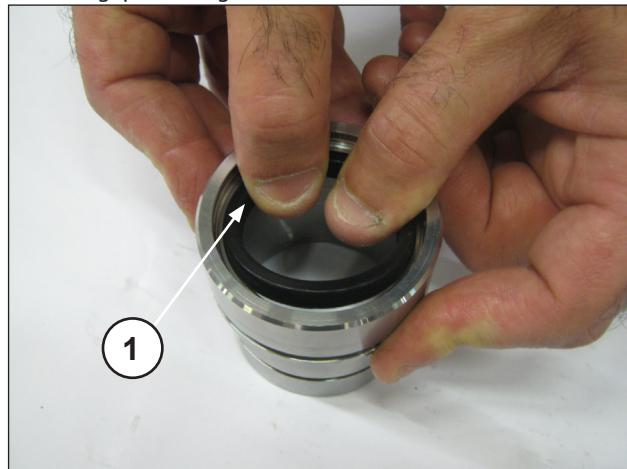
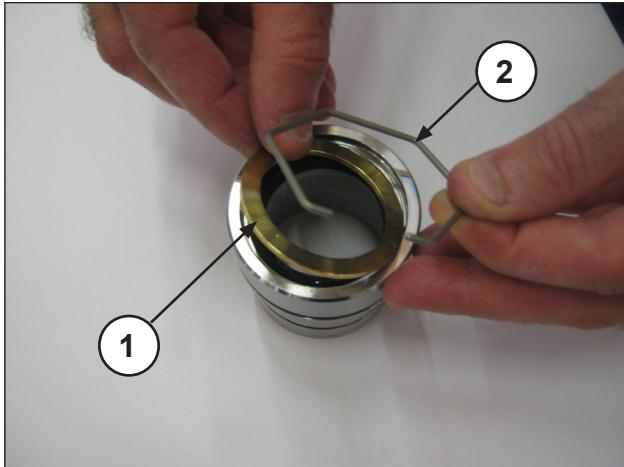

Fig. 29
Fig. 30
Insert the low pressure seal in the packing support (pos. ①, Fig. 29) paying attention to the mounting direction which requires that the sealing lip be set forward (towards the head). Then insert the seal ring, retaining ring (pos. ①②, Fig. 30) and the O-ring (pos. ①, Fig. 31).